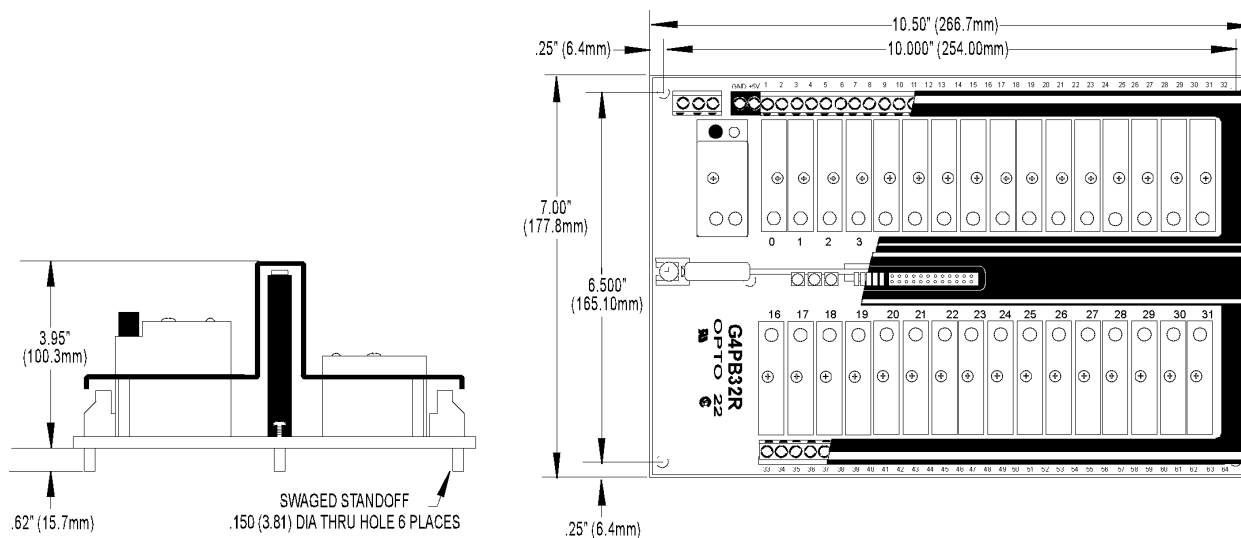

FIGURE 4: G4D32RS DIMENSIONS AND MOUNTING INFORMATION
2. Affix the G4D32RS to an enclosure or panel, using the mounting standoffs shown in Figure 4.